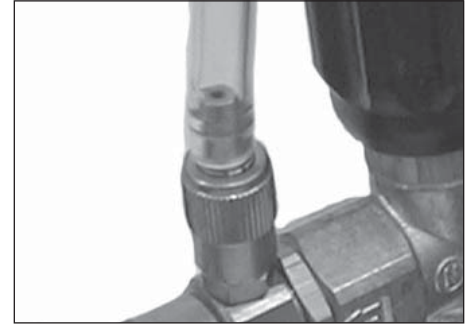

Figure 5 - Attach suction tube to barb fitting
2. Slide clear plastic detergent hose onto brass hose barb (See Figure 5).